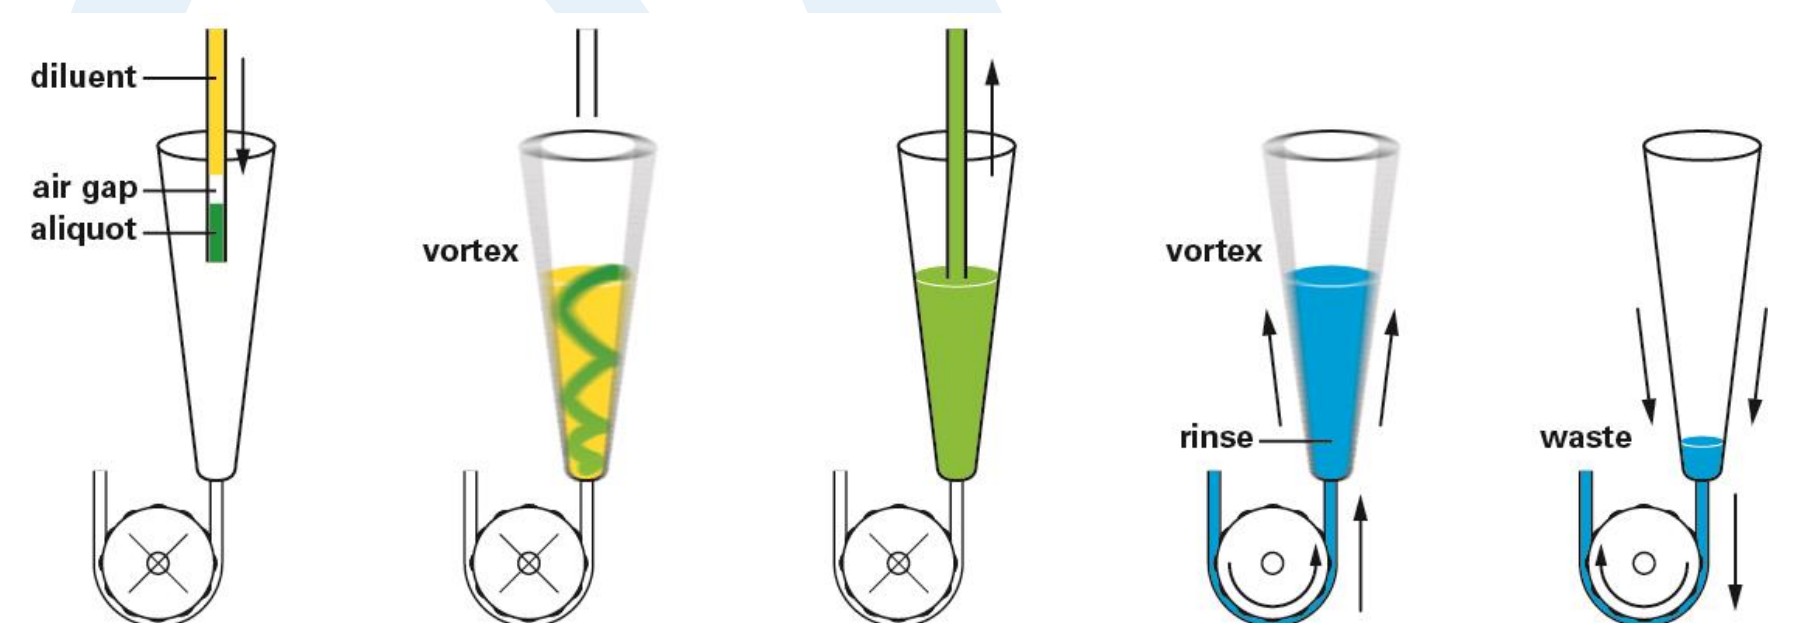

Figure 4: The vortex mixing vessel in five stages during a dilution
In Figure 4 the five steps of mixing are shown: (1) the aliquot and diluent are delivered to the vessel, (2) the vessel is mixed, (3) the dilution is sampled, (4) fresh rinse is added and mixed, and (5) waste is pumped away.